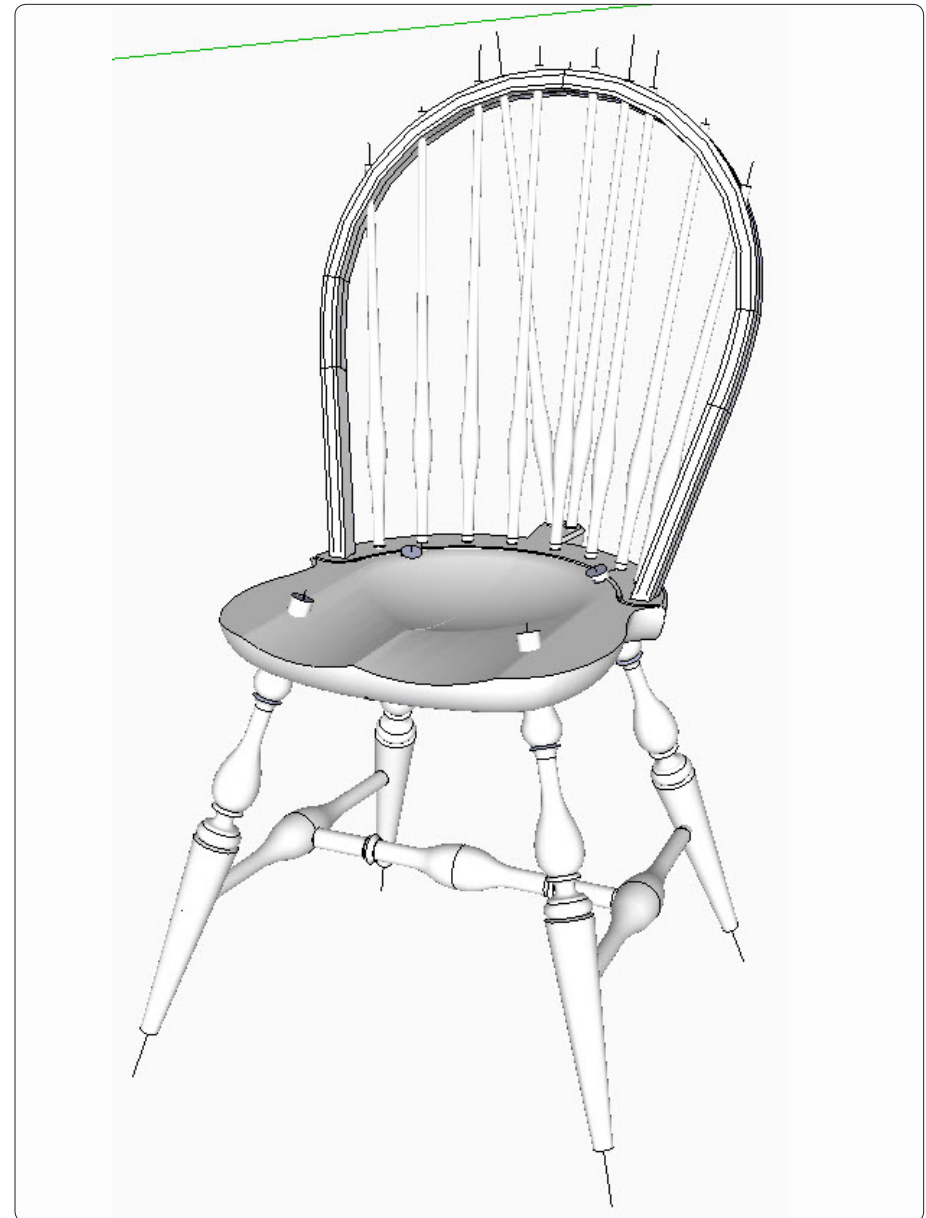
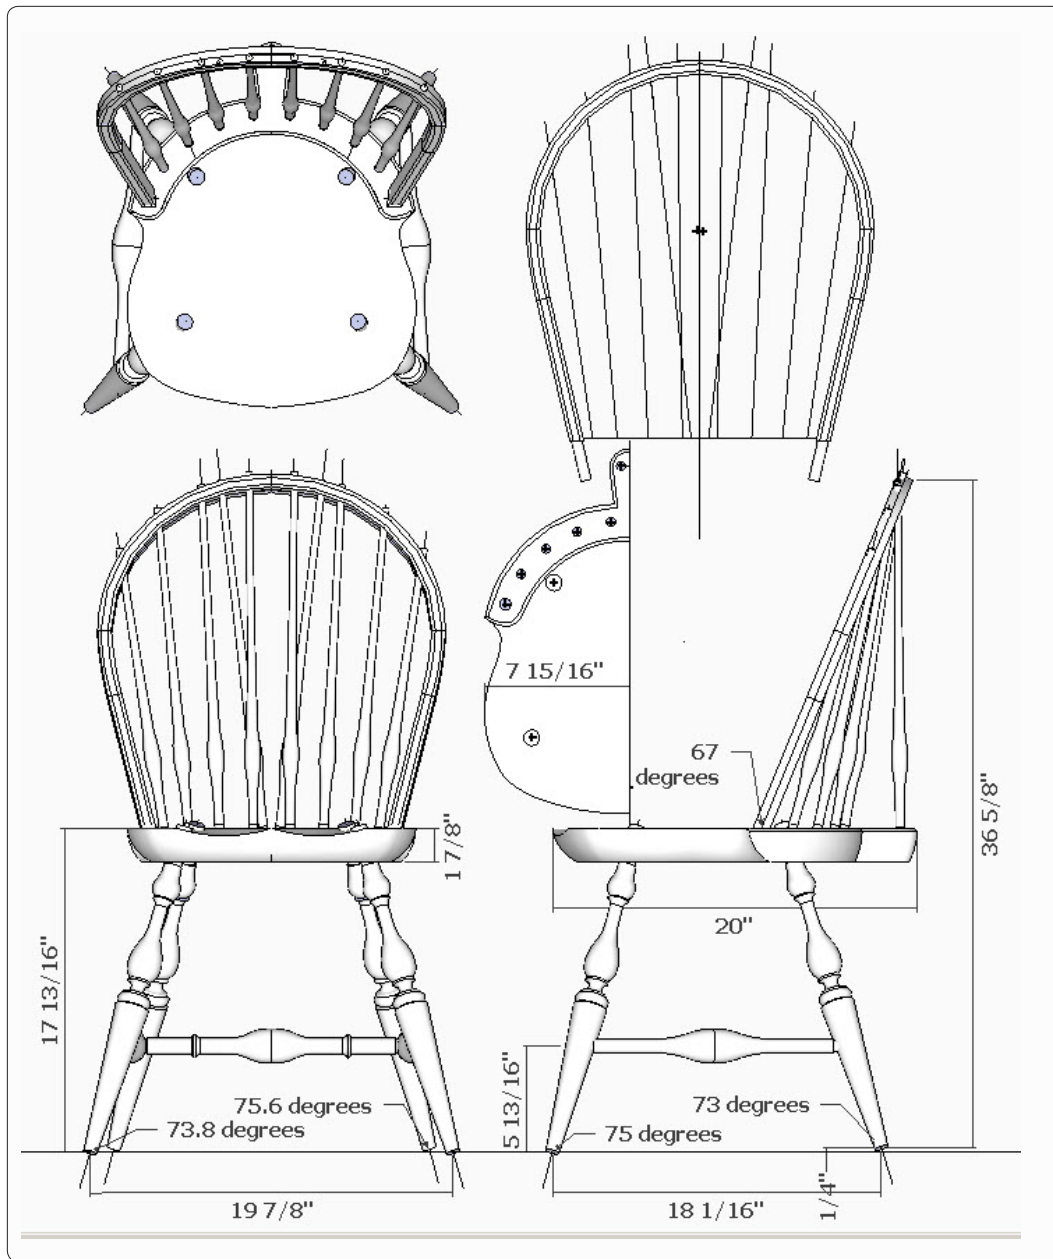
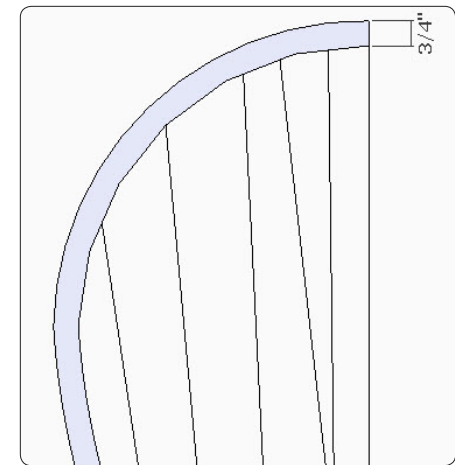

Figure 22. The bow-back Windsor model, nearly complete. All that remains is to trim the ends of the spindles and legs.
Figure 23. Top, front, and side views of the bow-back Windsor chair.
Figure 49. Trace over the bow shape and the centerlines for the spindles.
wise, use Figures 23 and 24. They are equivalent to the drawings provided in the book. You can scan those drawings into SketchUp and reconstruct the model following the steps given below. Figure 22 shows a nearly completed model. Chapter 11 explains how to handle imported images.
Step 1 Scan and scale the top view of the seat from Figure 23 and import it into SketchUp. Use the Line and Arc Tools to trace over the shape. Because the seat is symmetrical, you need to trace only the half that's shown in the drawing.
Step 19 From Figure 23, scan the view of the back bow and import it into your SketchUp file. Trace over the scanned image, and scale it so that the front face of the bow is $\frac{3}{4}$ in. wide (Figure 49). After tracing over the shapes, use the Push/Pull Tool in two steps to give the bow thickness and keep the spindle centerlines centered. Pull the front face of the bow out $\frac{7}{16}$ in. Use the Orbit Tool to move to